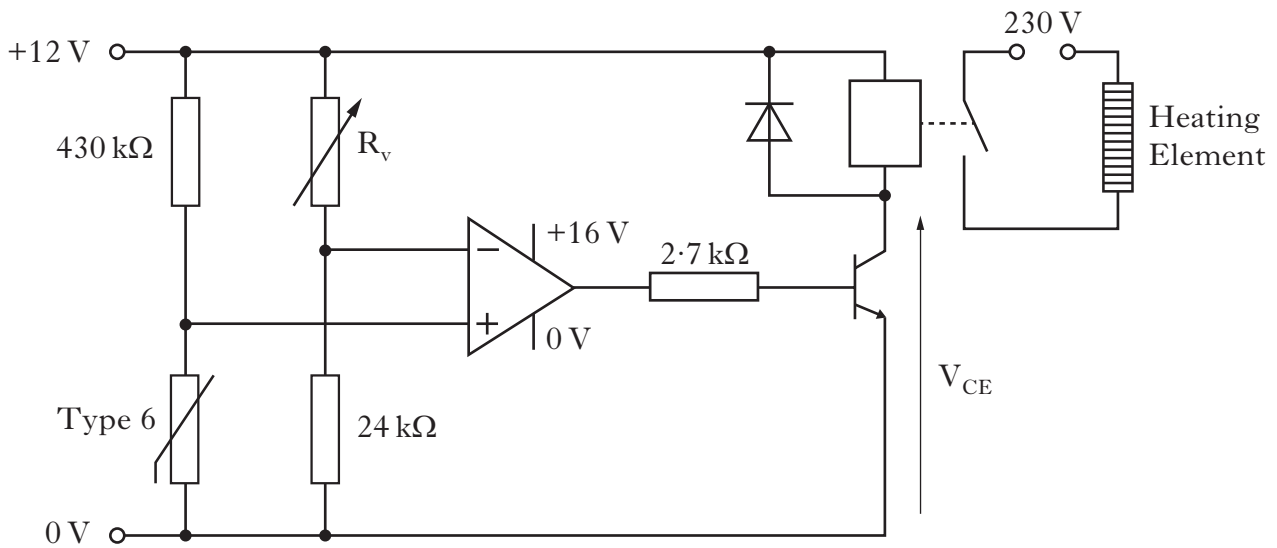

Figure Q7
7. A room heating system uses the control circuit shown in Figure Q7. A thermistor monitors the room temperature.